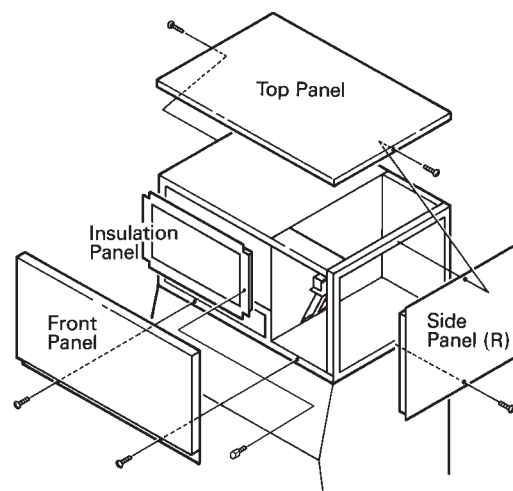

Fig. 1
2. How to Remove Panels - See Fig. 1